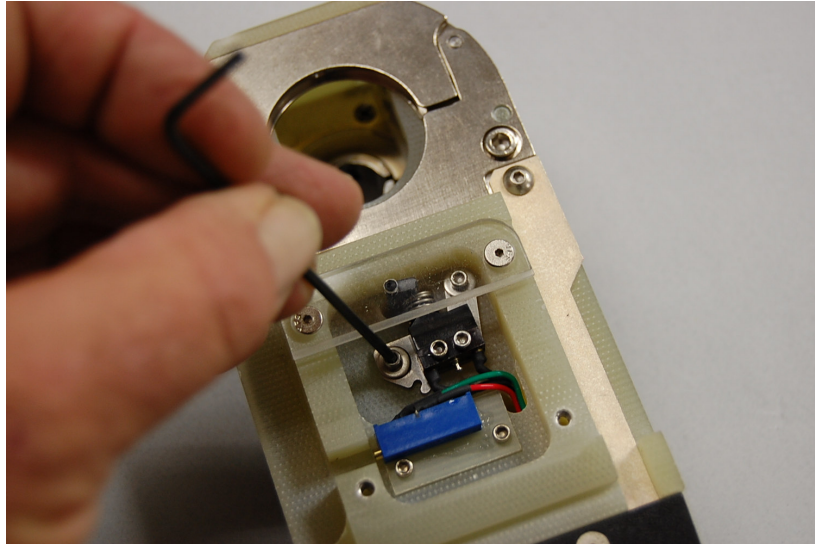

Fig. 18
- 9.3 For Models 9-750 series and 9-1500 series heads, loosen the screw on the left that holds the return-to-home limit switch bracket. See fig. 18.